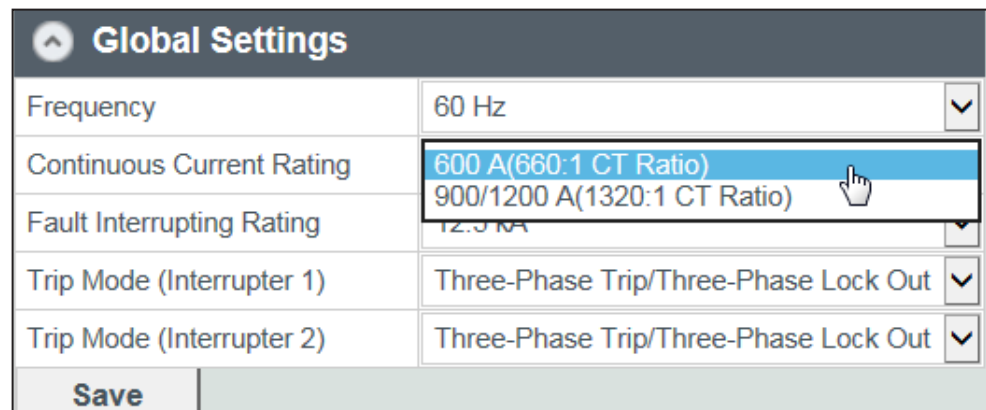

Figure 18. Select the continuous current from the Global Settings menu.
STEP 3. From the **Global Settings** menu, select the 600-A (660:1 CT Ratio) continuous current rating. See Figure 18.